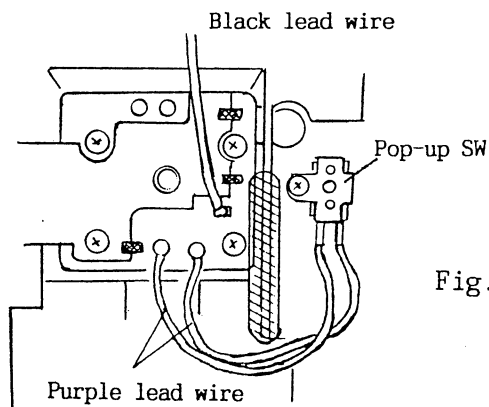

Fig.52
- a) Form the purple lead wires from the Pop-up SW so that they do not interfere with the area marked with "////". (See Fig. 52)